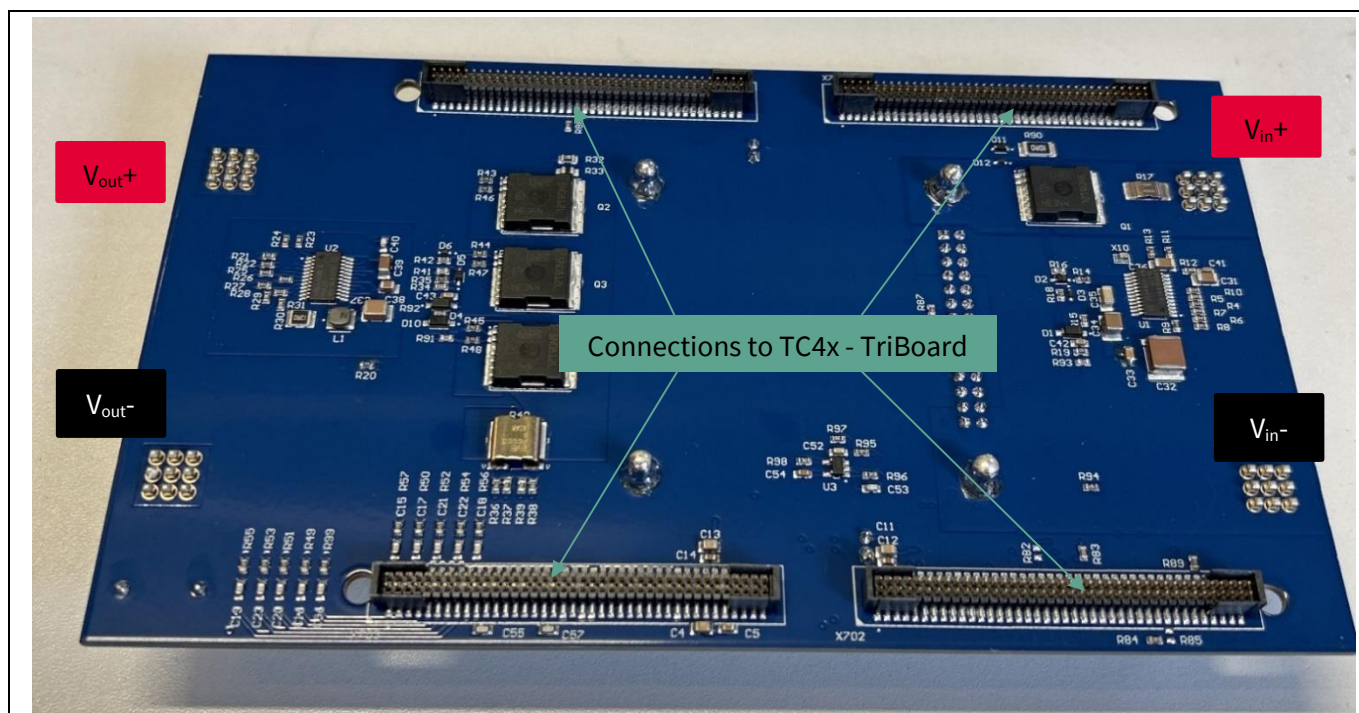

Figure 5 48V-12V DC-DC converter reference design - BOTTOM view
- Connect the bottom side of the interface board (as indicated in Figure 5 below) with the Infineon AURIX™ TC4x – TriBoard.